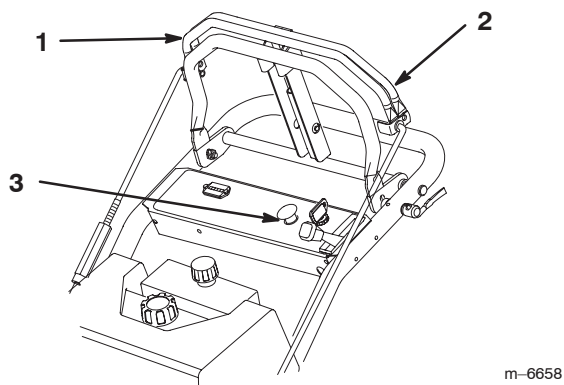

Figure 11
1. Release the upper control bar to stop the machine (Fig. 11).
2. To engage blade, squeeze blade control bail against upper control bar (Fig. 11).
1. Release the blade control bail to disengage blades (Fig. 11).